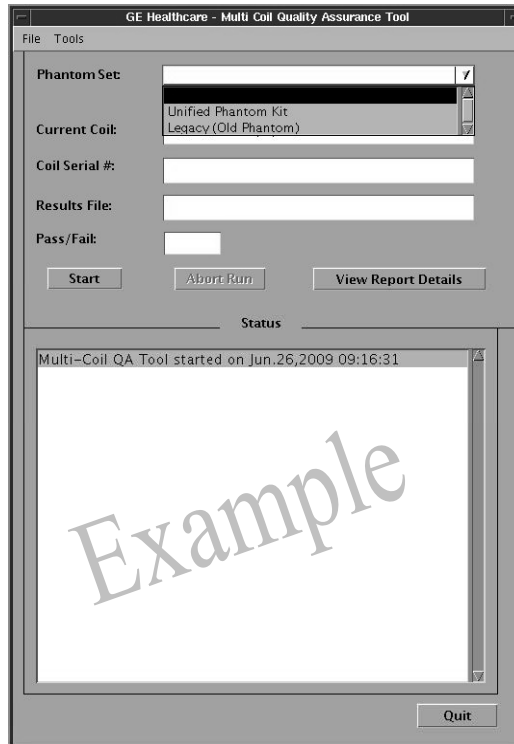

Figure 19
4. Select the *Unified Phantom Set* from the drop-down menu as shown in *Figure 19*.